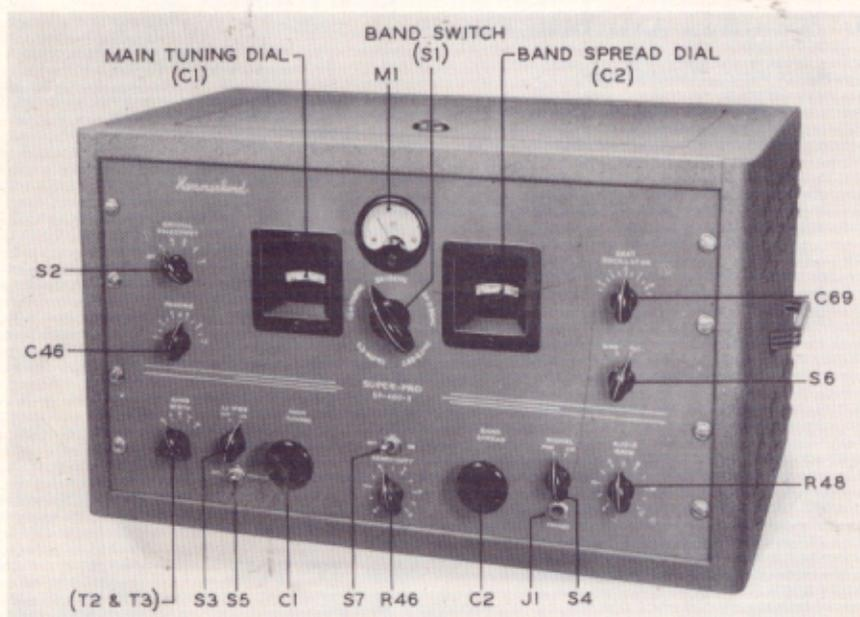
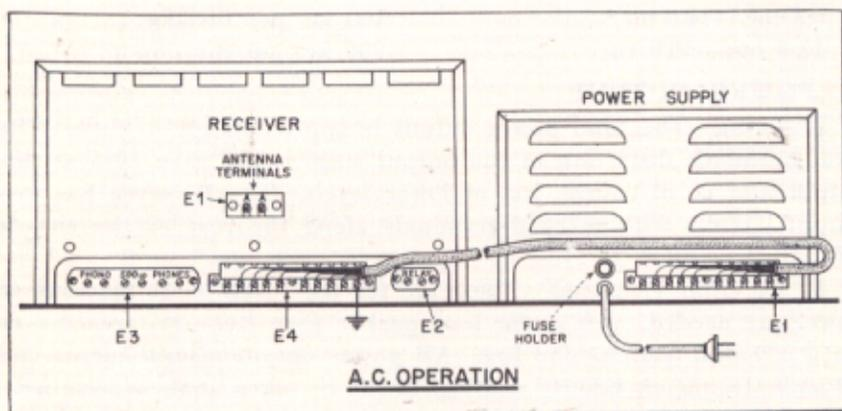

FIG. 2—Lay-out of controls referred to in text.
FIG. 3—Connections for power cable—A.C. operation.
panel (FIG. 2). Select the desired band by turning the BAND SWITCH knob right or left to the band indicated.
a. *Rating*—The total power output is approximately 8 watts. The total harmonic distortion of the output stage is less than 10% at this output and is, of course, less at lower levels. The Receiver has two output circuits with marked terminals along the rear of the chassis (FIG. 3).
(1) Remove the sheet-metal covers from terminal strip (E4, FIG. 3) on rear of Receiver and from terminal strip (E1, FIG. 3) on Power Supply. See that all ten screws on each strip are unscrewed at least three turns. Then attach one end of the connector cable to each terminal strip *exactly* as shown in FIG. 3 and tighten all screws securely. Make certain that each slotted spade lug on the cable strips makes contact with its respective screw terminal *only*, since a lug jammed between *two* screws could cause considerable trouble. Immediately
Connect a single-wire lead-in to the end of the antenna nearest the Receiver and try to have the lead-in wire leave the antenna approximately at right angles. Connect the lead-in to one of the "A" terminals (on terminal strip E1, FIG. 3) at the rear of the Receiver. Connect the other "A" terminal to a good ground, preferably not to the Receiver chassis. Run this ground lead to a water pipe or to a metal rod driven into the ground deep enough to reach moist earth. Keep the length of the ground lead as short as possible. Make the best possible electrical connections between the antenna and its lead-in and between the ground lead and "ground."
d. *Chassis Ground*: It is not usually necessary to ground the Receiver chassis, but this can be done by connecting the ground lead to the left-hand PHONO or to the left-hand PHONES terminal (located on terminal strip E3, FIG. 3). These two terminals are grounded to the inside of the chassis.
e. *Earphones*: Plug a headset into the PHONES jack (J1, FIG. 2), or connect it to screw terminals marked PHONES on rear of chassis. No matching transformer is necessary (see PAR. 20b).
f. *Loudspeaker*: The permanent magnet dynamic loudspeaker supplied with the Receiver has a transformer mounted on its housing. This transformer matches the voice coil of the loudspeaker to the 500-ohm output terminals (on terminal strip E3, FIG. 3) located at the rear of the chassis (marked 500 ohms). For loudspeaker operation,
h. *Line Switch:* Turn the OFF-ON switch (S7, FIG. 2) on the Receiver front panel to OFF and plug the power cord of the Power Supply into the a-c powerline.
a. *Radiophone Reception*: Set the front panel controls (FIG. 2) as follows:
(1) Throw OFF-ON power switch in center of panel to ON. This puts Receiver in operation.
(2) Adjust band switch (S1, FIG. 2) to a band which is likely to be very active. This will facilitate the process of getting familiar with the various adjustments. If interference is not serious, BAND WIDTH control can be adjusted to a wider band width (higher number), depending upon the degree of fidelity desired. In general, adjust this control to band width giving best tone with least interference.
(3) Do all tuning, with or without the meter with BAND WIDTH control set at 3. Other settings give wider bands, making exact tuning difficult. Make band width adjustments *after* signal is tuned properly.
(4) LIMITER-OFF-ON control turns noise limiter on and off. The noise limiter will be most valuable on the higher frequencies, where interference from automobile ignition system is most bothersome.
(1) On strong signals, do not turn SENSITIVITY control all the way on, because it will cause overloading. If the AUDIO GAIN control is set at about 7, it is possible to regulate volume by using only the sensitivity control.
(2) To turn on the beat oscillator, set SIGNAL-MOD-CW switch at CW. The BEAT OSCILLATOR control varies the pitch of the beat between oscillator and incoming signal. Use beat oscillator for code reception and for locating weak modulated signals.
(3) Fading signals can be improved by returning AVC-MANUAL switch to AVC.
d. *Receiver Silencing:* Receiver can be silenced by flipping the SEND-REC switch (S6, FIG. 2) to SEND. This operation opens the "B" supply to the R-F and 1st detector tubes (V1, V2 and V3). The Receiver then remains ready for instant service during transmission periods. Note also that instead of using the SEND-REC switch, a relay may be connected to the RELAY terminals (E2, FIG. 3) at rear of Receiver and silencing controlled by relay action, actuated, for example, by the associated transmitter. When using a relay for silencing, flip SEND-REC switch to SEND (open) and *leave* it there. While the
e. Phono Operation: Leads from a phonograph pickup may be connected to the PHONO terminals (on terminal strip E3, FIG. 3) at the rear of the Receiver. (Note that the left-hand terminal of this pair is grounded to chassis.) Use the SEND-REC switch (S6) as a “phono-radio” switch by flipping it to the SEND position, thus eliminating radio interference and making it unnecessary to hunt for a “dead spot” on the tuning dial.